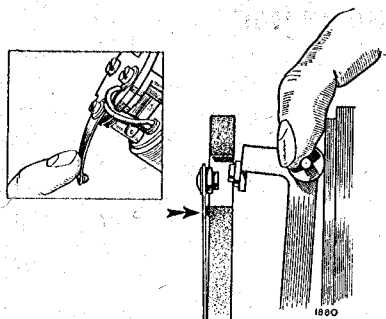

Fig. 12. Setting the contact blade to ensure contact with the pedestal ridge
29. Check that when the outer rocker is pressed onto the coil housing, the contact blade rests on the narrow rib or ridge which projects slightly above the main face of the pedestal (Fig. 12). If it does not, slacken the contact blade attachment screw, swing the blade clear of the pedestal, and bend it downwards a sufficient amount so that when repositioned it rests against the rib lightly, over-tensioning of the blade will restrict the travel of the rocker mechanism.